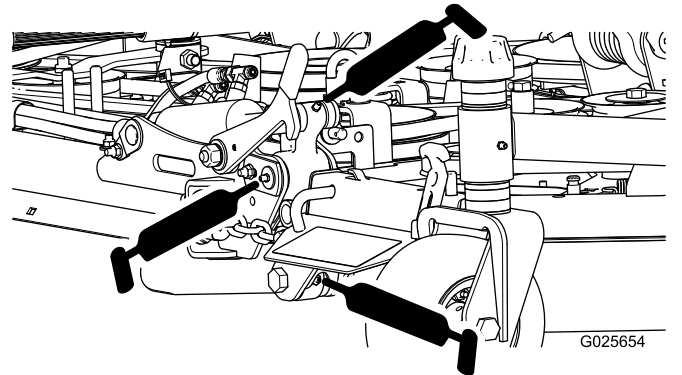

Figure 16
- Wing deck hinges (10) (Figure 16)